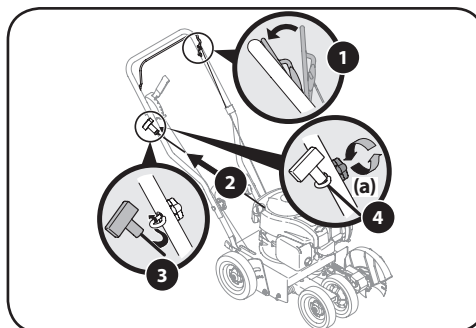

Figure 3-5
1. Stand behind the edger and hold the blade control against the upper handle. See Figure 3-5.
**NOTE:** The starter rope will not pull out of the engine unless the blade control (refer to Figure 3-5) is depressed against the upper handle.